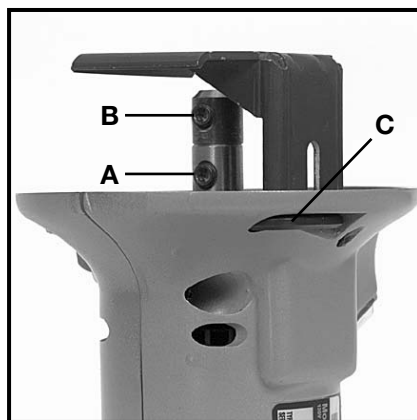

Fig. 2
The Model 7499 Cutout Tool is designed to accept cutout bits with either .115", $\frac{1}{8}$ " or $\frac{1}{4}$ " diameter shanks. Bits with $\frac{1}{4}$ " shanks are inserted directly into the spindle shaft of the Cutout Tool and are retained by screw (A) Fig. 2. A special chuck (#43224, supplied with the 7499), is used to install bits with either .115" or $\frac{1}{8}$ " shanks. The special chuck is inserted directly into the spindle shaft of the Cutout Tool and is retained by screw (A) Fig. 2. The bit shank is inserted into the special chuck and is retained by screw (B) Fig. 2.
A hex wrench (C) Fig. 2, is stored in the Cutout Tool housing. This wrench is used to tighten (and loosen), the bit retaining screws. Use your thumbnail to rotate the hex wrench clockwise; away from the tool housing. Grasp the wrench and pull it from its storage pocket.